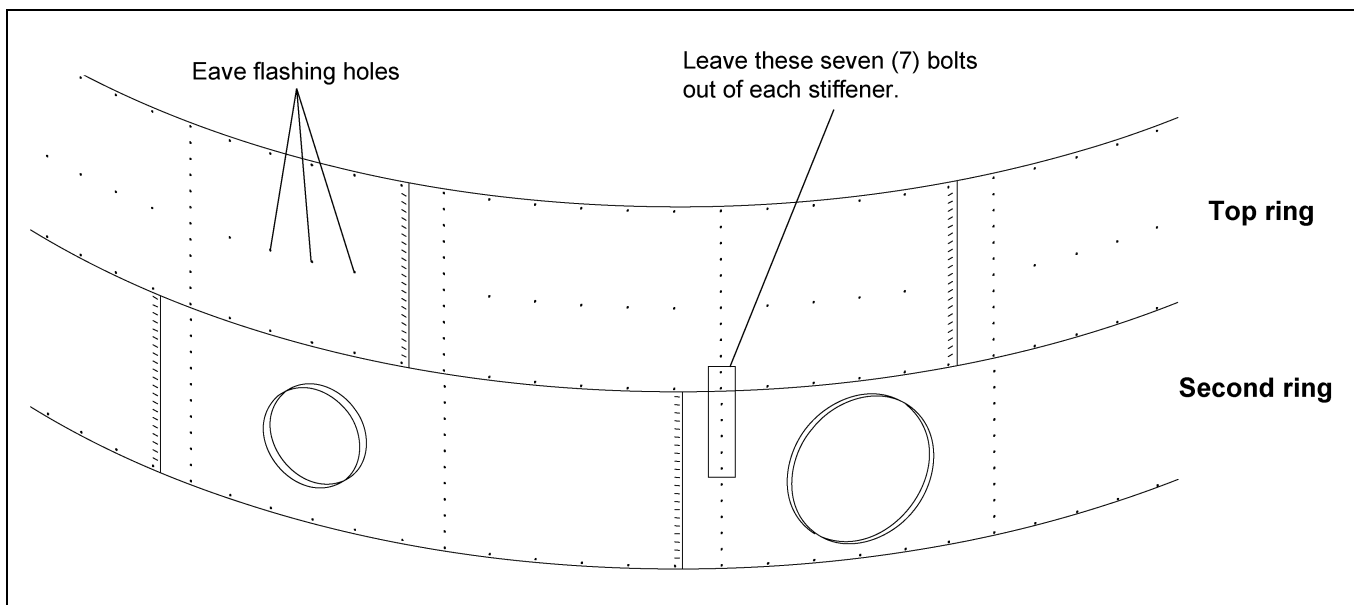

Figure 5D Top 2 Rings
**NOTE:** The fan entrance sheet and access door are located in the second ring. Attach the top stiffeners, leaving out the seven (7) bolts indicated in Figure 5D at each stiffener location. Install the flashing bolts from the outside.